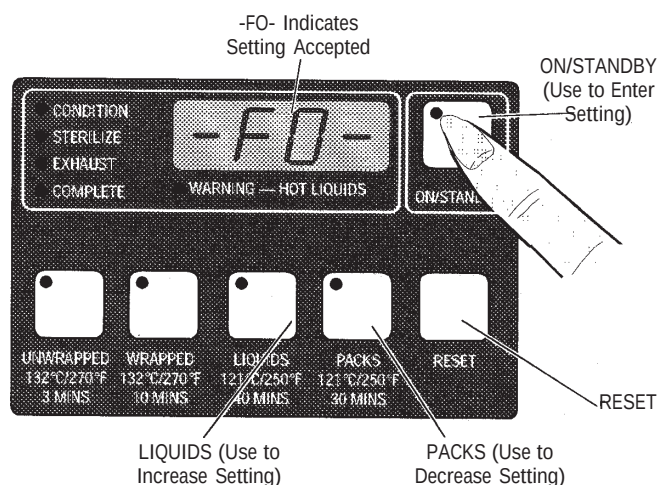

**Figure 5-20**
#### 5.1.4.5 Setting Temperature Units and Time/Date, STERIS Tabletop Steam Sterilizer (Figure 5-20)
2. Press and hold RESET touch pad (Figure 5-20) until -F1- appears on the front panel display and the buzzer sounds.
1. Press and hold RESET touch pad (Figure 5-20) until -F1- appears on the front panel display and the buzzer sounds.
2. Press RESET touch pad repeatedly (Figure 5-20) until -F4- appears on the front panel display and the buzzer sounds.
2. Press RESET touch pad repeatedly (Figure 5-20) until -F5- appears on the front panel display and the buzzer sounds.
2. Press RESET touch pad repeatedly (Figure 5-20) until -F6- appears on the front panel display and the buzzer sounds.
1. Press and hold RESET touch pad repeatedly (Figure 5-20 or 5-21) until -F7- appears on the front panel display. Hold until the buzzer sounds.